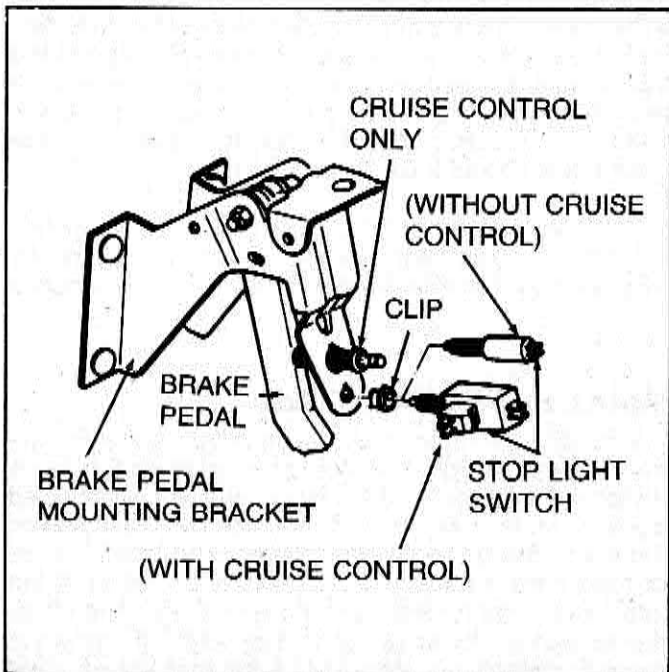

Figure 6-7 — Brake Pedal/Stoplight Switch Assembly
1. Check for a full upward and full release of the brake pedal. Determine if the stoplight switch, cruise control switch or any other item does not allow full upward pedal travel. (See Figure 6-7.) The stoplight switch/brake pedal mounting bracket provides automatic adjustment when the brake pedal is manually returned to its mechanical "up-stop" position.
2. Pull the brake pedal fully rearward against the pedal stop until audible "click" sounds can no longer be heard. This moves the stoplight switch assembly in a tubular clip, as shown in Figure 6-7, and provides a proper adjustment.